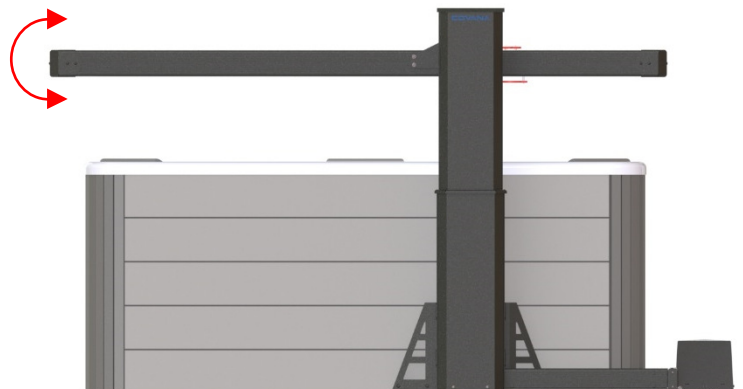

Figure 31
- 5) Slowly tilt the cover back and forth until both shear pin holes align properly. (Figure 31)